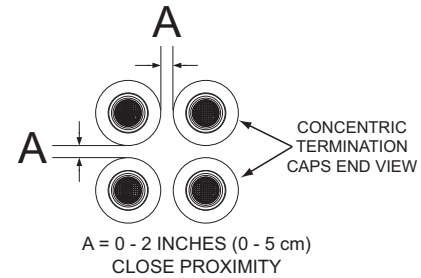
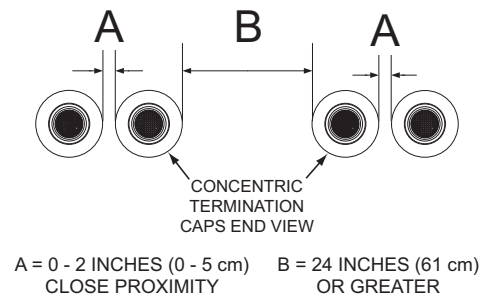
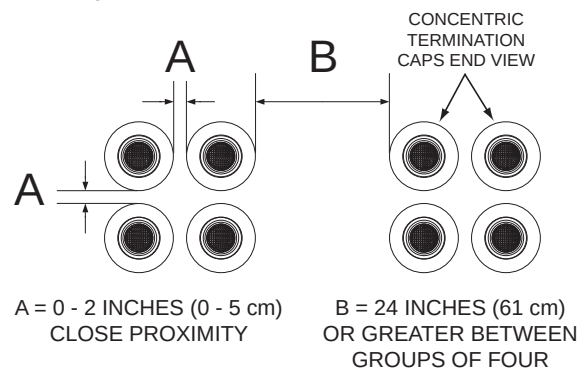

Figure 33. Four Concentric Terminations
Figure 34. Four Concentric Terminations
Figure 35. Eight Concentric Terminations
1. When installing four concentric terminations through a roof or through a sidewall in close proximity they may be arranged into stacked rows of two as shown in **Figure 33** (page 31) or lateral rows of two as shown in **Figure 34** (page 31).
2. Four is the maximum number of concentric terminations that may be installed in a group where all terminations are in close proximity as shown in **Figure 33**.
1. When installing multiple groups of concentric terminations through a roof or through a sidewall in close proximity, they can be installed into stacked groups of four as shown in **Figure 35**. Lateral groups of four as shown in **Figure 34** may be a more convenient installation arrangement for multiple groups depending on available space.
Four concentric terminations may be installed in close proximity as shown in *Figure 37*. See *Figure 33* (page 31) and *Figure 34* (page 31) for detailed information on clearances and additional arrangement options.
Eight concentric terminations may be installed in two stacked groups of four, in close proximity, as shown in *Figure 38*. See *Figure 35* (page 31) for detailed information on clearances.
Lateral groups of four as shown in *Figure 34* (page 31) may be a more convenient installation arrangement for multiple groups depending on available space.